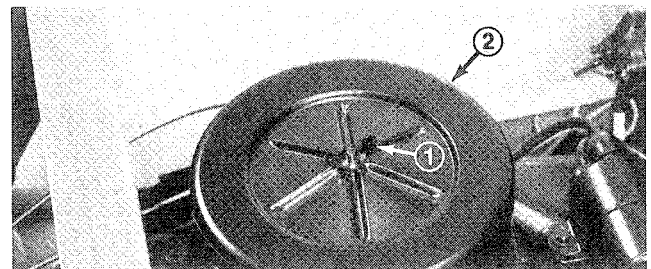

Figure 21
1. Remove wing nut and cover (Fig. 21).